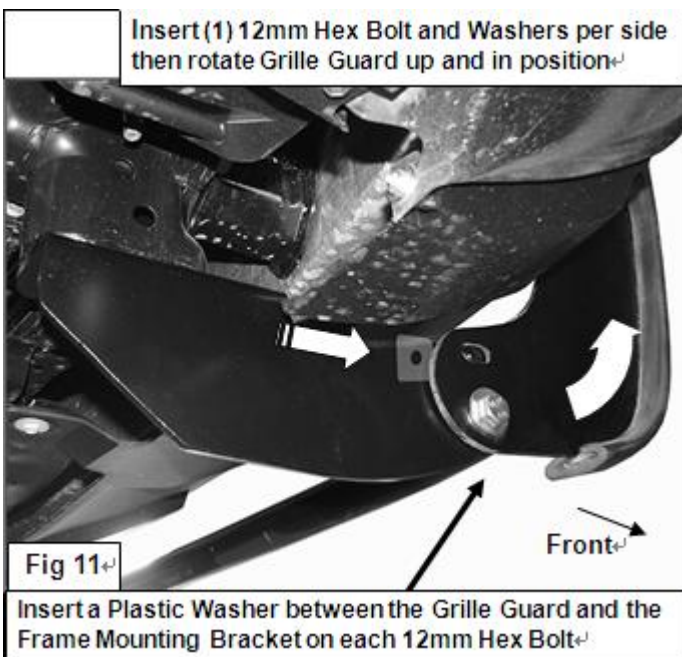

Fig 9B
10. Slide the Top Bracket in through the opening in the bumper, **(Figure 9B)**. Line up the (2) holes in the Bracket with the previously installed Frame Bracket, **(Figure 10A)**. Bolt the Top Bracket to the top of the Frame Bracket with (2) 8mm Hex Bolts, (2) 8mm Lock Washers and (2) 8mm Flat Washers, **(Figure 10B)**. Leave hardware loose at this time.